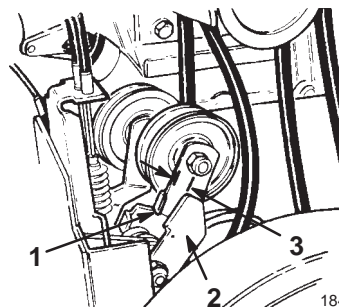

**Figure 29**
5. Hold the lever and insert a 0.010 in. (0.25 mm) feeler gauge between a coil in the center of the spring (Fig. 29).